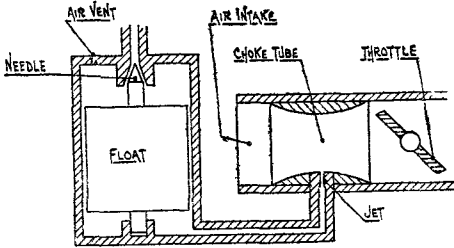
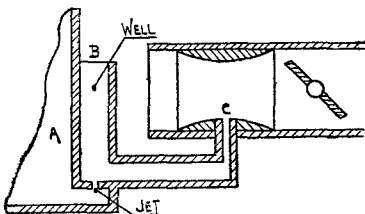
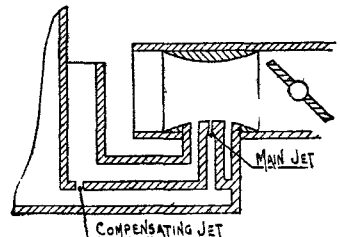
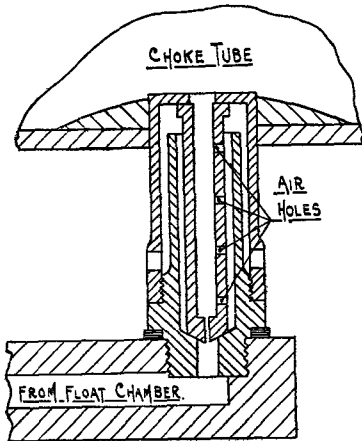

FIG. 4.—“Simple” carburettor.
FIG. 6.—Principle of compensating jet.
FIG. 7.—Zenith compensation.
FIG. 8.—Diffuser compensation.
Fig. 4 shows a simple type of carburettor. The float, needle and needle seating control the level of petrol in the carburettor, allowing the petrol to flow in when the level is low, and shutting it off when the level reaches the top of the jet. When the engine is on its inlet stroke the pressure in the inlet pipe is lowered, sucking petrol through the jet and air through the choke tube at a rate depending on the sizes of these components and the pressure difference between the inlet pipe and the atmosphere. In addition to regulating the flow of air, the choke tube increases the speed of the air, at a point where it passes the jet, sufficiently to break up the petrol into a fine spray. The throttle regulates the amount of mixture passing to the engine, so controlling the speed and power of the engine.
- (b) *“Zenith”.*—Fig. 6 shows an arrangement in which the jet does not open directly into the choke tube, but into a U-tube. One end of this U-tube (B) is open to atmospheric pressure, whilst the other end (C) is under the pressure prevailing in the choke tube, the float chamber (A) also being under atmospheric pressure. When the engine is not running the
Fig. 7 shows the compound jet arrangement used in the Zenith carburettor (Meadows engine). Petrol is drawn into the choke tube *via* two concentric tubes, the central one forming the main jet (which is of the type shown in fig. 4) and the outer one fed with petrol from the "compensating jet" (which is of the type shown in fig. 6). The jets and choke tube are of suitable sizes to form a suitable mixture at any speed: if speed rises, the mixture produced by the main jet gets richer whilst that produced by the compensating jet gets weaker, the combined mixture from the two jets together remaining practically constant throughout the speed range of the engine.
- (c) "Diffuser".—Referring again to fig. 6, if the opening of B to atmospheric pressure is completely blanked off, fuel is drawn from the jet solely by the lower pressure at C, *i.e.* the carburettor behaves as in fig. 4 and the mixture gets too rich as engine speed rises, instead of too weak. There must, therefore, be some degree of opening of B to the atmosphere which will result in an unvarying mixture strength at all engine speeds: this principle is used in the Solex carburettor fitted to the 750 watt Norman-Lyon set, fig. 8 showing the arrangement of the jet. As the level in B falls, successive holes are uncovered which admit air: their size and position is such that the mixture is kept constant.